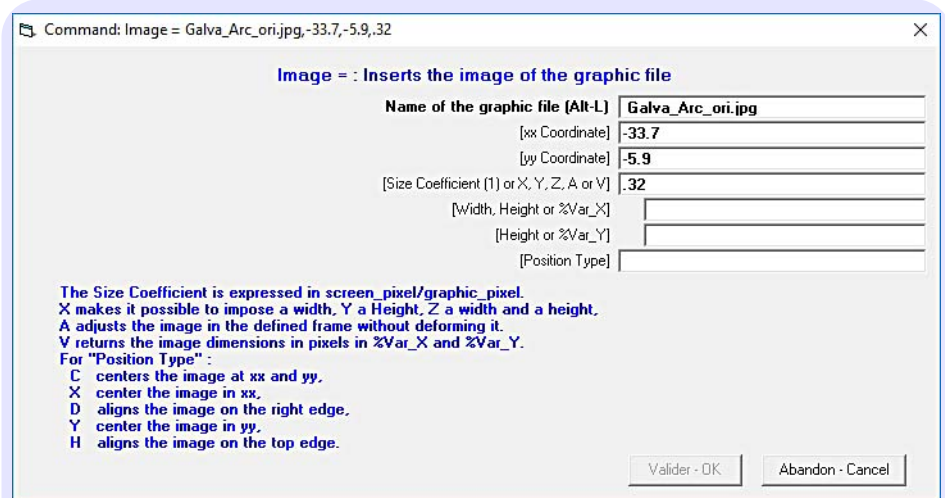

Fig. 6 - Input mask for the Image command
You are not wild about writing commands with a sometimes large number of parameters! So, do not panic, the **Input Masks**, set up with the version 2.50, make the entry of the parameters of a command now easy. They give a description of the command and for each parameter, thus avoiding knowing the order of the parameters and their meaning. An example is given in Fig. 6 for the **Image** command, another in Fig. 9 for the external command **GCE\_E** (mnemonic for GalvaCommandExternal\_Echelle [Echelle is Scale in French]).
- press **F2** to open the **Input Mask** of this command (see Fig. 6),